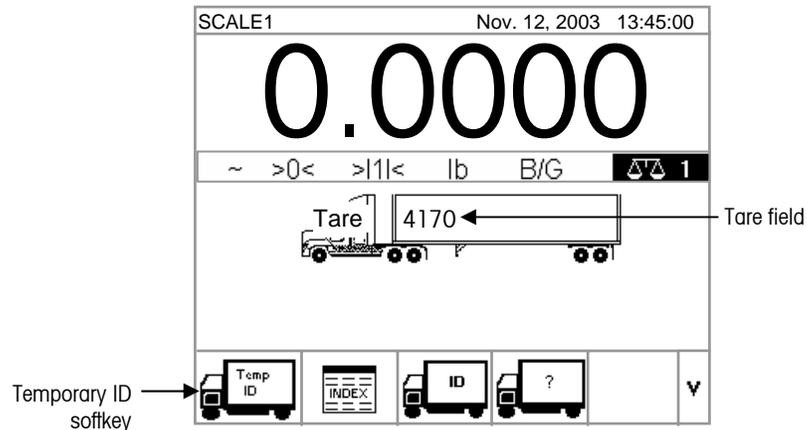

Figure 2-9: Default Weight Screen
1. From the default weight screen (Figure 2-9), use the numeric keypad to enter the tare value in the tare field **BEFORE** pressing the TEMPORARY ID soffkey.